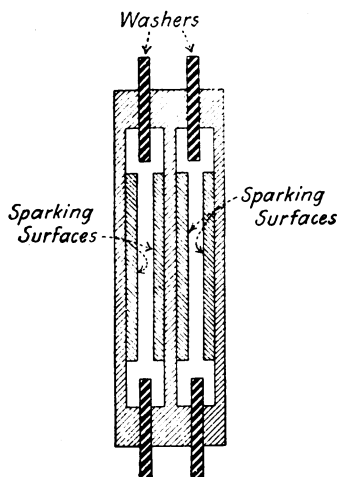

Fig. 27.—A Sectional View of a Simple Quenched Spark Gap.
F. Quenched spark gap. Very satisfactory results have been obtained by turning down silver half-dollars for quenched spark-gap faces. Fig. 27 shows form. Mica